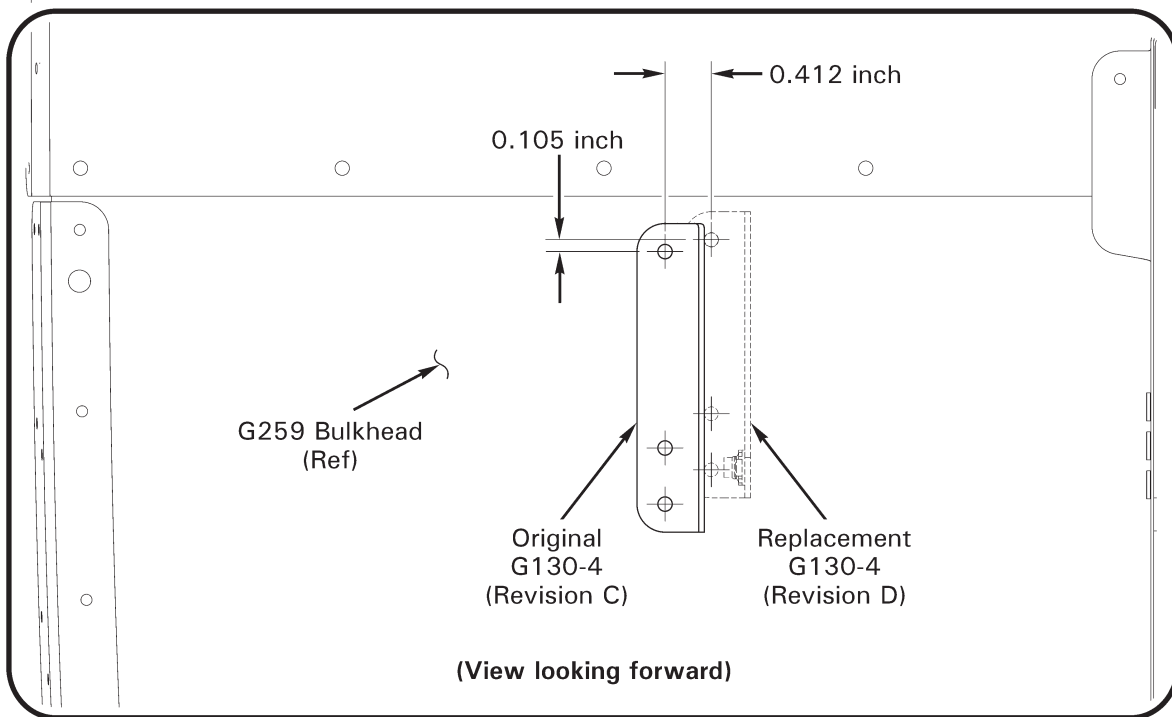

FIGURE 3 Layout location for new G130-4 Angle
- b. Refer to Figure 3. Layout top hole location for new G130-4 angle (with nutplate installed, provided in kit as p/n KI-262-1A) as shown. Drill one 0.130 inch diameter hole at location marked. Deburr hole.
- e. Install new G130-4 angle using (3) MS20470AD4-4 rivets.